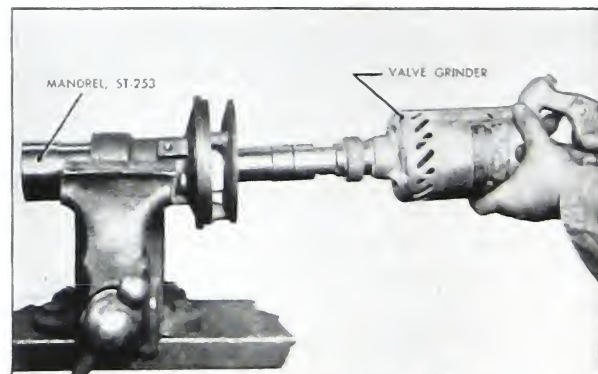

Fig. 8-3. Refacing seal face of water pump body
3. Use a flat stone in a valve grinder and a .375 valve grinder pilot as shown in Fig. 8-3 to reface the water pump body seal face.